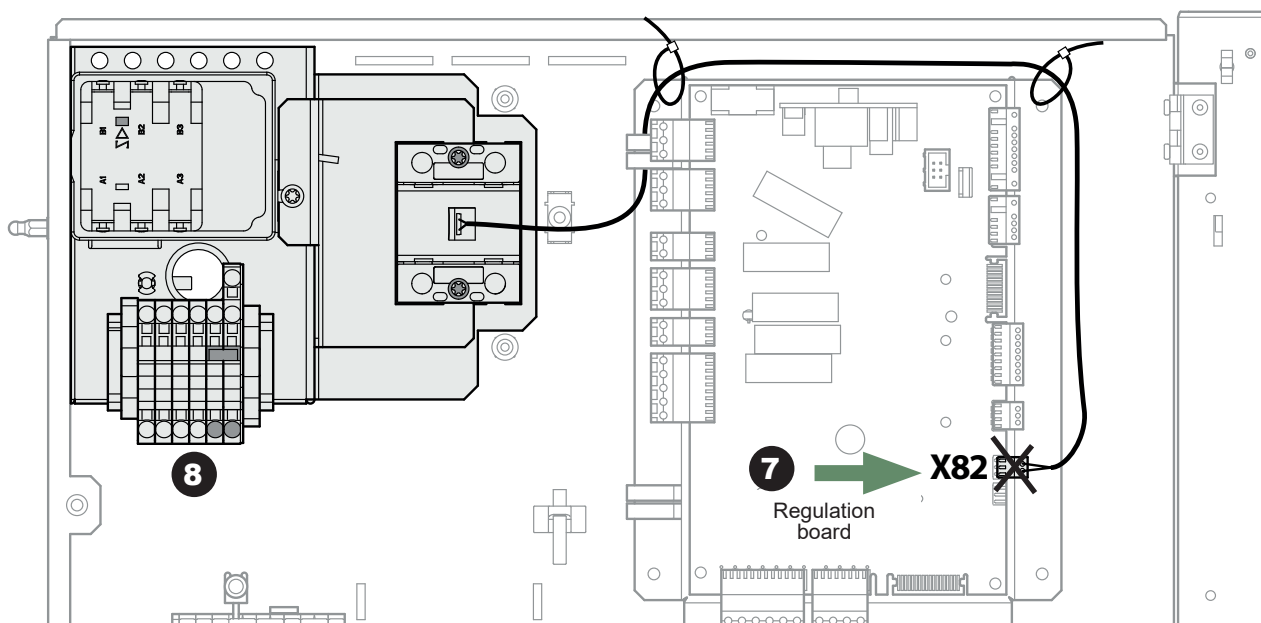

fig. 9 - Disconnection of the 3-phase electrical back-up
- **7** - Disconnect the X82 connector (3-phase electrical back-up, see *fig. 9*).